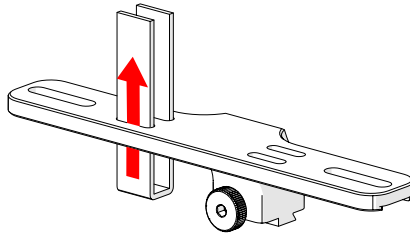

Fig. 75 - Insert velcro straps
1. Slide the velcro strap through the bracket's holes (Fig. 75).